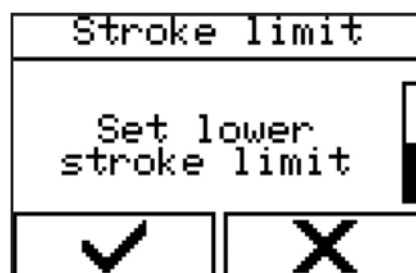

Figure 100 - Selecting a menu
1. Select the menu via 'Control' → 'Stroke limit' → 'Set lower stroke limit' (Figure 100).